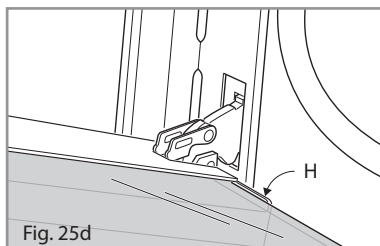

Fig. 25d
- Insert the inner pane in the left “E” and right “F” side guides (fig. 25c) and gently let it slide up to the retainers “H” (fig. 25d).